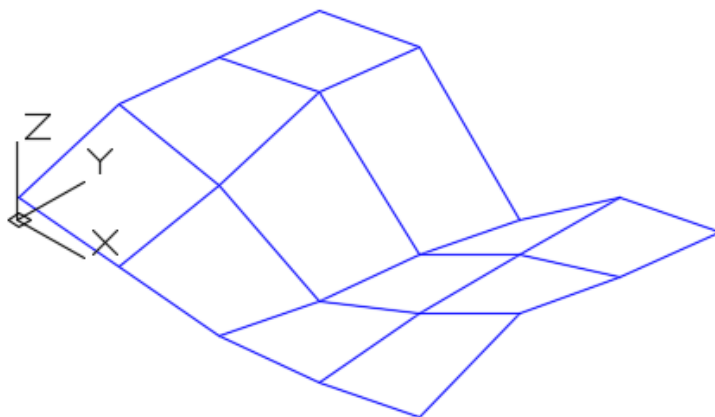

Figure Step 8
Step 8 Turn layer: Model off and your model should appear as shown in the figure. Using the EXPLODE command and a window, explode the 3D plines to convert them into lines. (Figure Step 8)